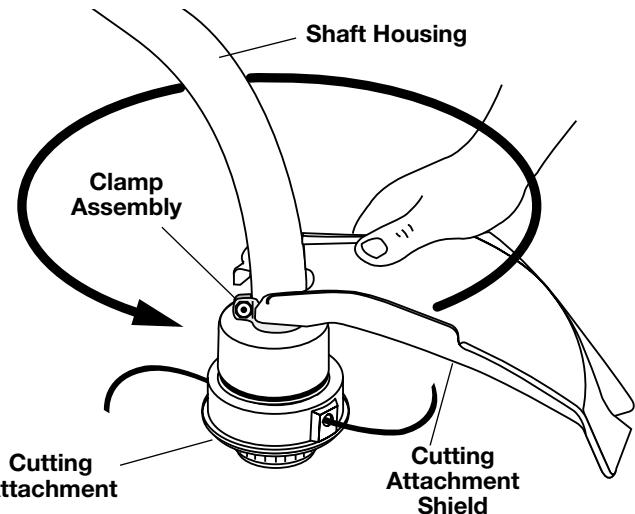

Fig. 3
1. Place the cutting attachment shield onto the shaft housing above the clamp assembly (Fig. 3).
2. Push the cutting attachment shield down to the top of the cutting attachment assembly and then rotate the cutting attachment shield 180°. Align the 4 screw holes and fit the cutting attachment shield securely in the recessed pocket (Fig. 3).